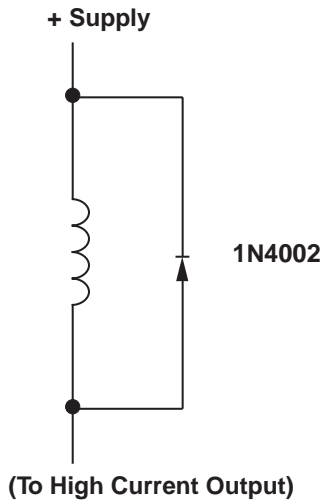

Figure 10-1—Inductive Load Protection Circuitry
- When inductive loads are used, protection diodes or other schemes must be used. Refer to Figure 10-1.